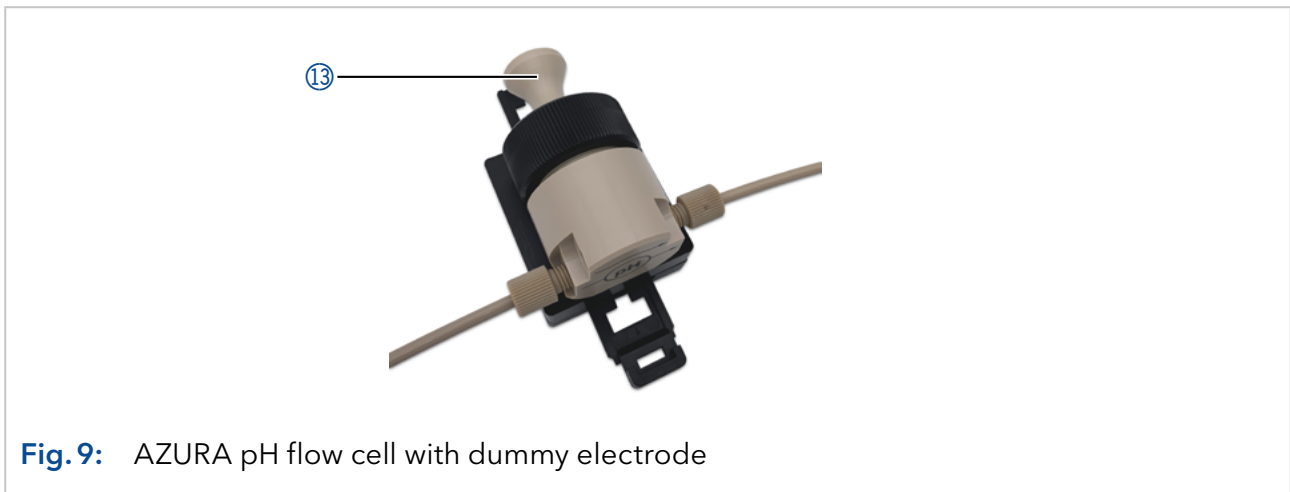

Fig. 9: AZURA pH flow cell with dummy electrode
- insert the dummy electrode (order separately) after removing the pH electrode (see Fig.9).